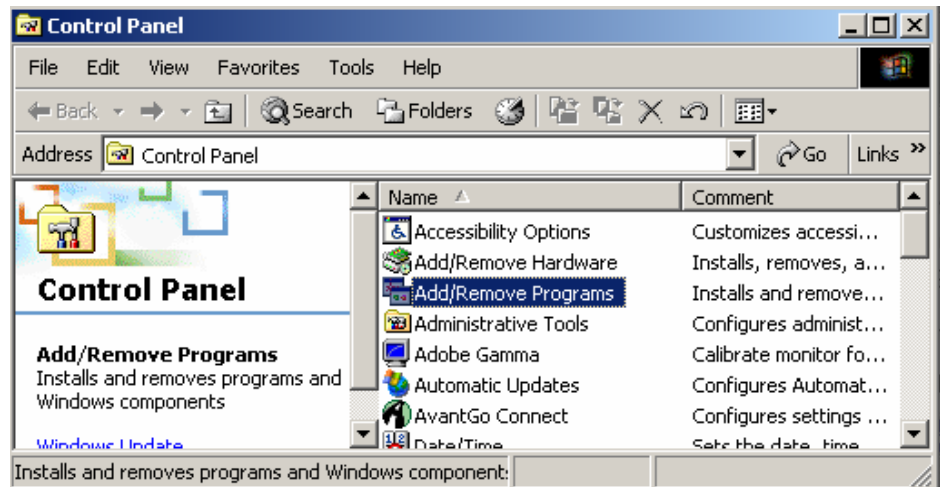

Figure 2.9. Control Panel
2. Double-click on Add/Remove Programs, as shown in Figure 2.9.